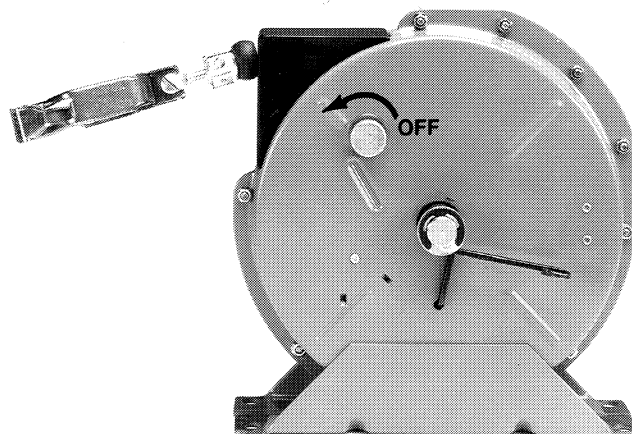

Figure 3
1. With ground clamp fully retracted, turn ratchet lock to **OFF** (see Figure 3).